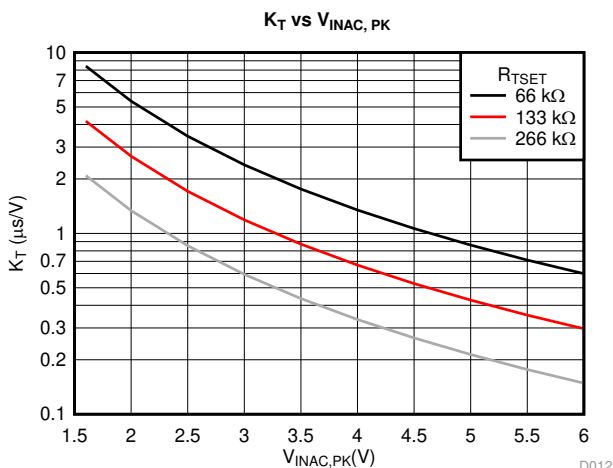

图 16. K_T vs Peak Voltage
Gate-drive on-time varies proportionately with the error-amplifier output voltage (V_{COMP}) and inversely proportional to the squared value of the peak of the rectified input voltage sensed through VINAC pin as stated by equation (3). In equation (3) it is shown that the on-time is inversely proportional to the value of resistor R_{TSET} connected between pin TSET and pin AGND. In order to calculate on-time, Equation (4) can be used. Parameter K_T is function of the rectified peak input voltage sensed by pin VINAC as reported in graph of 图 16. In this graph 3 curves are reported for three different values of R_{TSET} . Two values of parameter K_T are reported in the electrical specs table for two values of VINAC: K_{TL} and K_{TH} corresponding at the VINAC = 1.6V and VINAC = 5V and $R_{TSET} = 133k\Omega$. Because voltage on VINAC is proportional to the line rectified voltage, for t_{ON} calculation purposes we refer to the peak value of this voltage that is obtained through an internal peak detect. K_T is inversely proportional to the squared value of VINAC peak value so it is the t_{ON} time realizing the so called voltage feed-forward compensation. The Voltage Feed-forward function modifies the MOSFET on time according to line voltage so, ideally output power delivered does not change if line voltage changes. When operating in single phase mode K_T is called K_{TS} and its value is doubled.
图 16 shows the values of K_T versus the peak voltage value on VINAC pin.